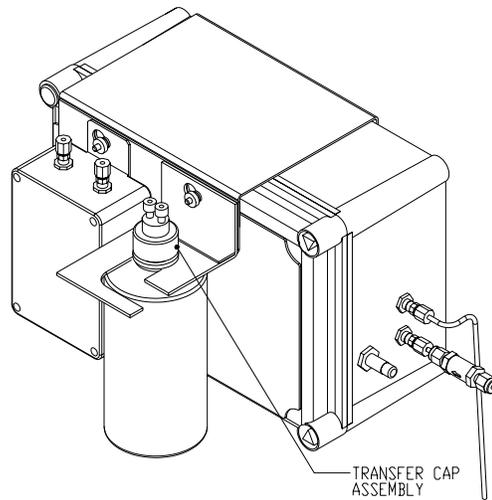

Figure 8
1. See Figure 8. Clean the Transfer Cap assembly using de-ionized or process water (water to be tested).